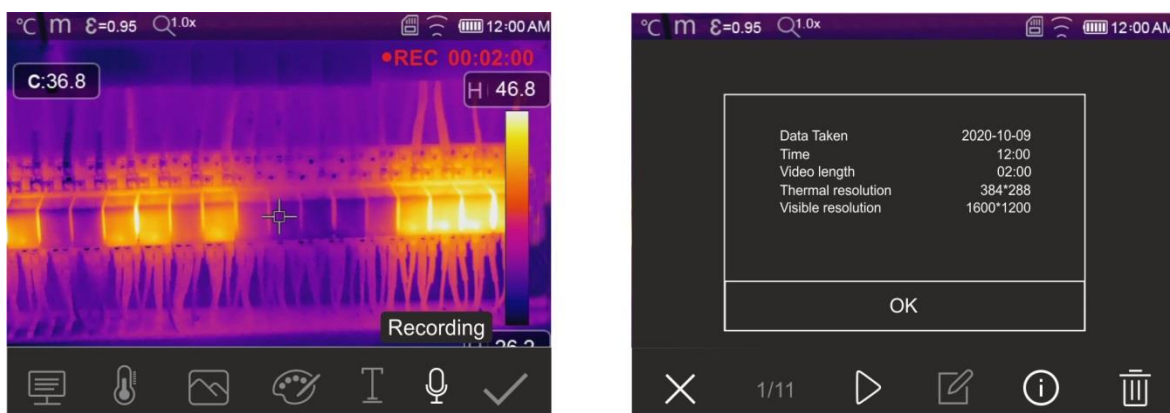

Fig. 51: IR video recording
2. **Press and hold key T (Trigger) for at least 2s.** The indication and the elapsed time are shown at the top of the display to indicate that recording is in progress (see Fig. 51 – left side).